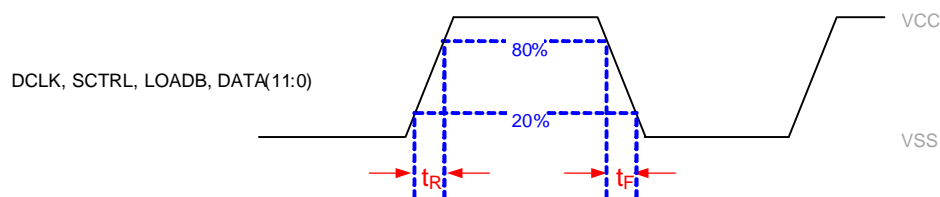
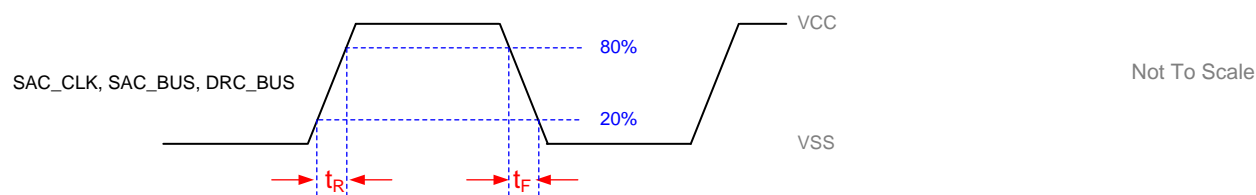

Figure 4. Rise and Fall Timing Parameters 1
Figure 5. Rise and Fall Timing Parameters 2
(2) Refer to Figure 4 and Figure 5.